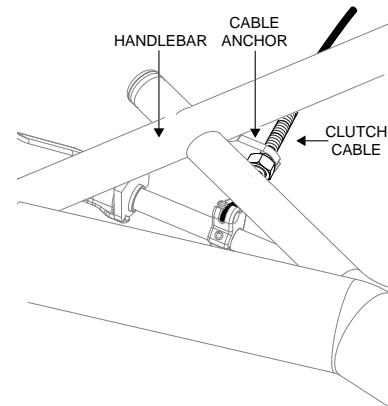

Figure 14. Handlebar Clutch Cable
2. Check that the clutch cable (Figure 14) is attached to the handlebar cable anchor.